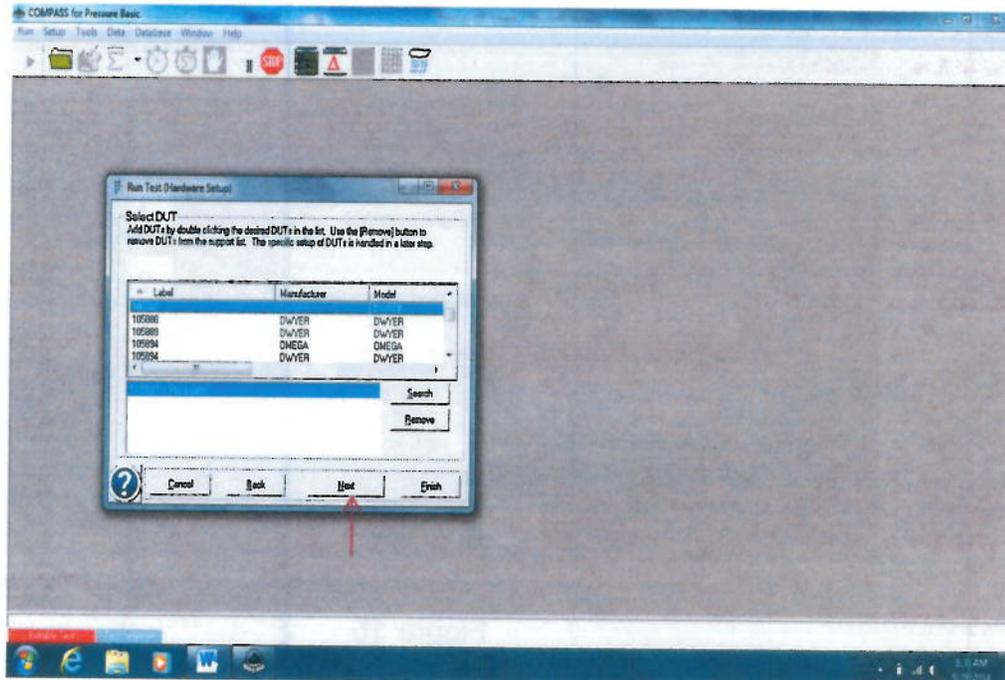

Figure 17
11.17 Click on the “Next” button. See Figure 17.